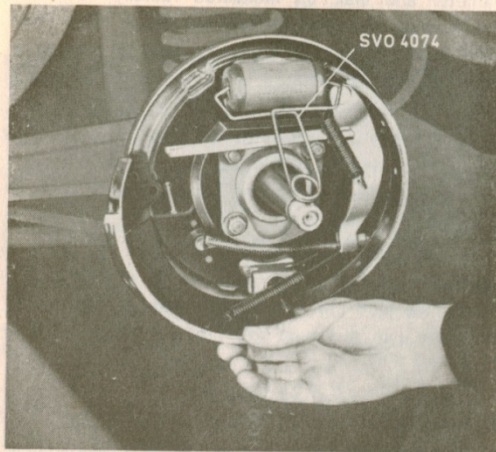

Fig. 7-15. Removing brake shoes
3. Place clamp SVO 4074 over the wheel unit cylinder so that the plungers cannot be pressed out. Remove the upper return spring with the help of a pair of brake spring pliers. Pull down the front shoe into the groove on the brake backing plate, hold against the guide pin on the back side of the backing plate and turn and then remove the locking clamp. Lift out the shoe, see Fig. 7-15.